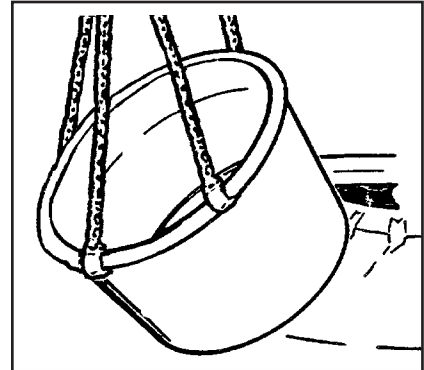

Figure 10
2. Using a hoist, lift the rim base from the tire. Using the ESCO Flange Ring Puller Model 90300 will make handling easier. (See Fig. 10.)